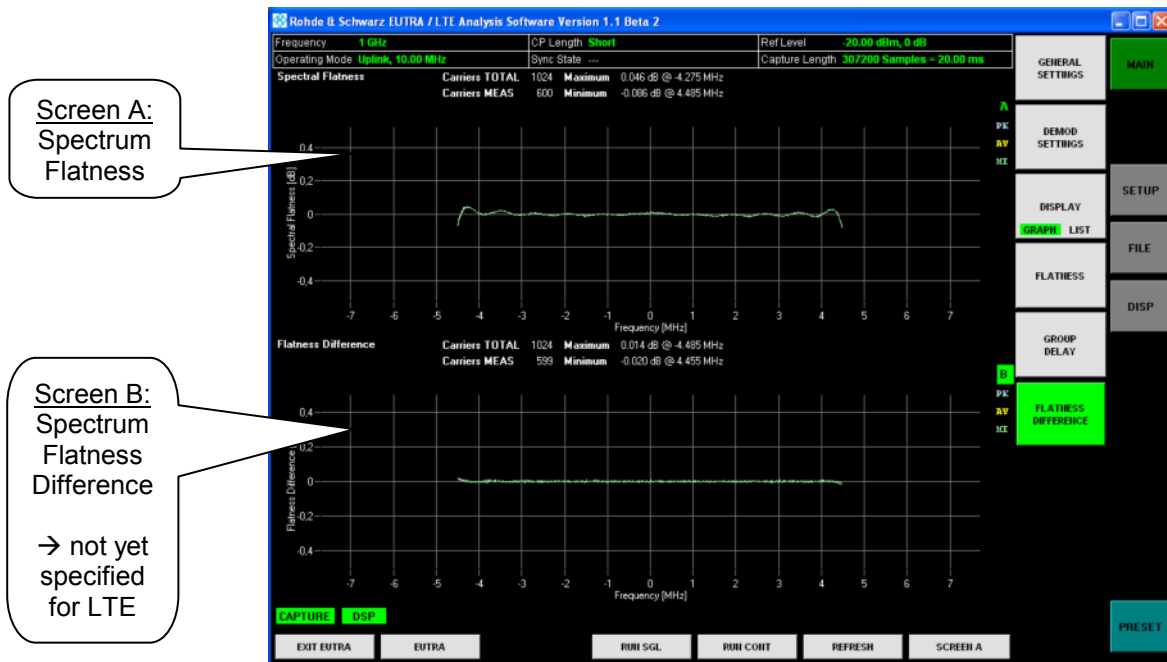

Figure 5-14 Analyzing EUTRA/LTE UL signals – Spectrum Flatness and Flatness Difference
7. Spectrum: Flatness Difference (Figure 5-14: Screen B)